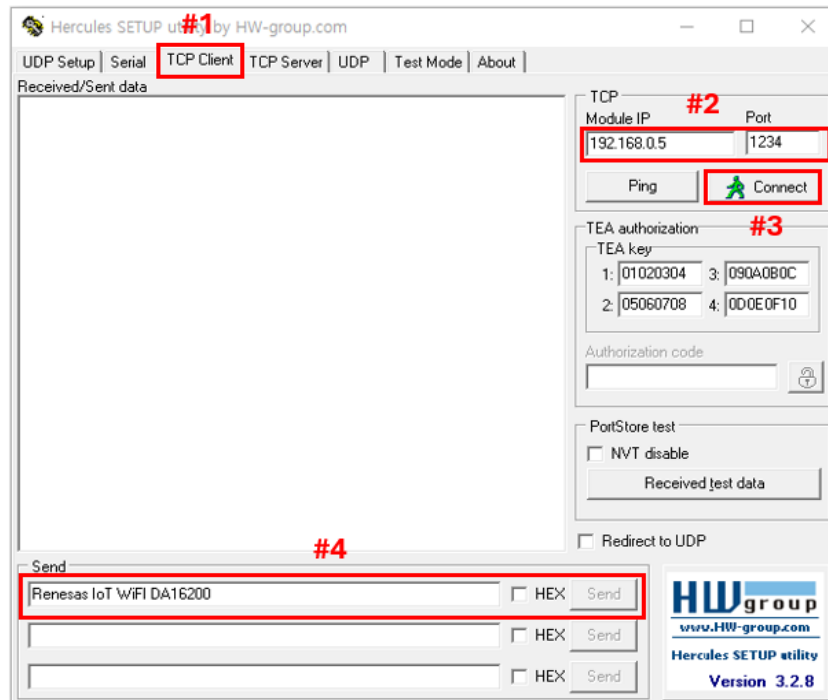

Figure 29. Hercules – TCP client socket setting
- a. Select TCP Client (#1, Figure 29).
- b. Enter the IP address and the port number of DA16200/DA16600 (#2, Figure 29).
- c. Click Connect to connect the socket (#3, Figure 29).
- a. Send data (#4, Figure 29).